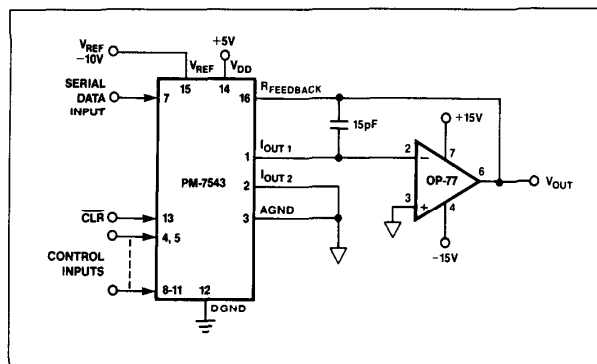

FIGURE 7: Unipolar Operation with High Accuracy Op Amp (2-Quadrant)
1. Phase compensation (see Figures 7 and 8).
In most applications, linearity depends upon the potential of  $I_{OUT1}$ ,  $I_{OUT2}$ , and AGND (pins 1, 2, and 3) being exactly equal to each other. In most applications, the DAC is connected to an external op amp with its noninverting input tied to ground (see Figures 7 and 8). The amplifier selected should have a low input bias current and low drift over temperature. The amplifier's input offset voltage should be nulled to less than  $\pm 200\mu V$  (less than 10% of 1 LSB).
The circuit shown in Figures 7 and 8 may be used with an AC or DC reference voltage. The circuit's output will range between 0V and approximately  $-V_{REF} (4095/4096)$  depending upon the digital input code. The relationship between the digital input and the analog output is shown in Table 2. The  $V_{REF}$  voltage range is the maximum input voltage range of the op amp or  $\pm 25V$ , whichever is lowest.
- Nominal full scale for the circuits of Figures 7 and 8 is given by  $FS = -V_{REF} \left( \frac{4095}{4096} \right)$ .
- Nominal LSB magnitude for the circuits of Figures 7 and 8 is given by  $LSB = V_{REF} \left( \frac{1}{4096} \right)$  or  $V_{REF} (2^{-n})$ .
The transfer function for the PM-7543 connected in the multiplying mode as shown in Figures 7 and 8 is: